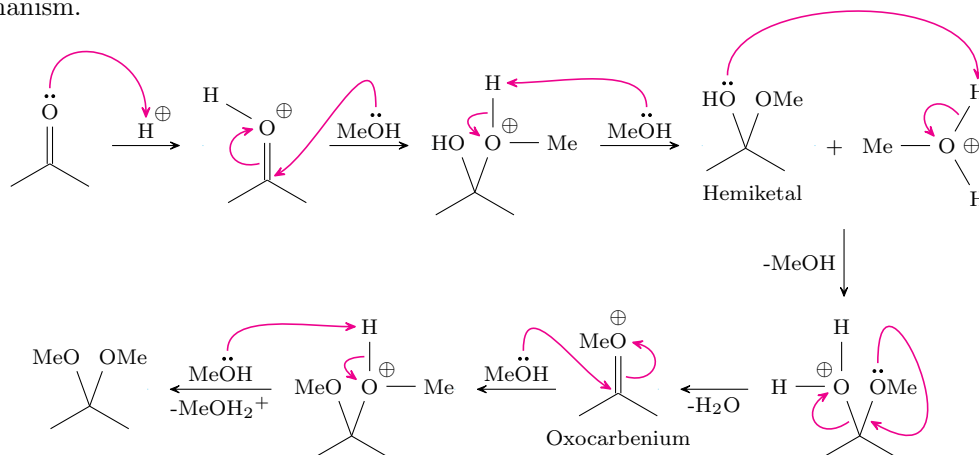

Figure 1.14: Ketal formation mechanism.
- This equilibrium is related to ketal formation (Figure 1.14).
- The mechanism is entirely analogous to Figure 1.14 up until the formation of the **iminium** ion. This intermediate is simply deprotonated at the nitrogen to yield the final imine.
- Regeneration of the acid catalyst in both Figure 1.14 and the acid imine formation mechanism.